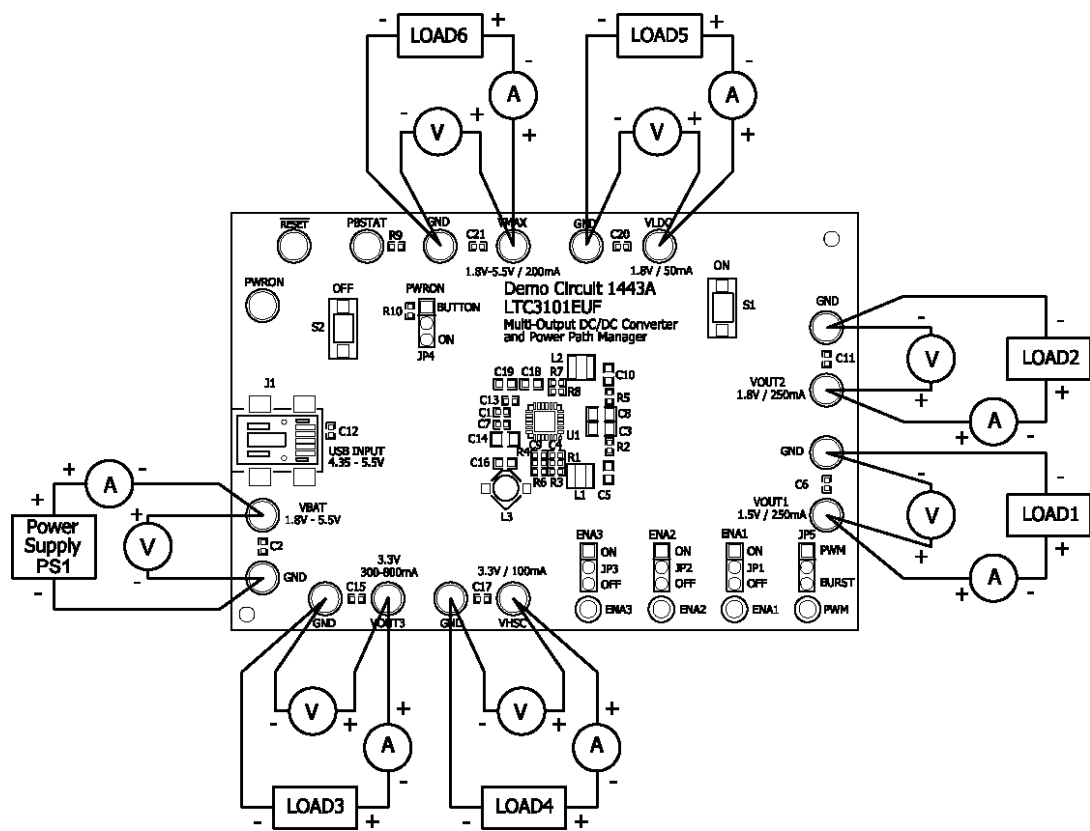

Figure 1. Proper Measurement Equipment Setup
Using short twisted pair leads for any power connections and with all loads and power supplies off, refer to Figure 1 for the proper measurement and equipment setup. The Battery/Power Supply (PS) should not be connected to the circuit until told to do so in the procedure below.